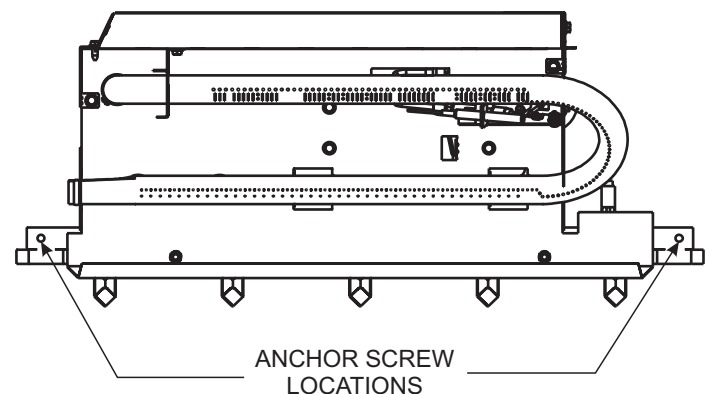

Figure 9
## Assembly Procedure: (Figure 9)
2. An anchor hole is provided in the two bottom side members of the grate frame. After centering the grate correctly, mark the hole positions on the fireplace/firebox floor. Drill two (2) 5/32" diameter holes approximately 1-1/2" deep for masonry screws or 1/8" hole for sheet metal screws.
3. Anchor the grate to the fireplace/firebox floor using the screws provided. Refer to Figure 9.